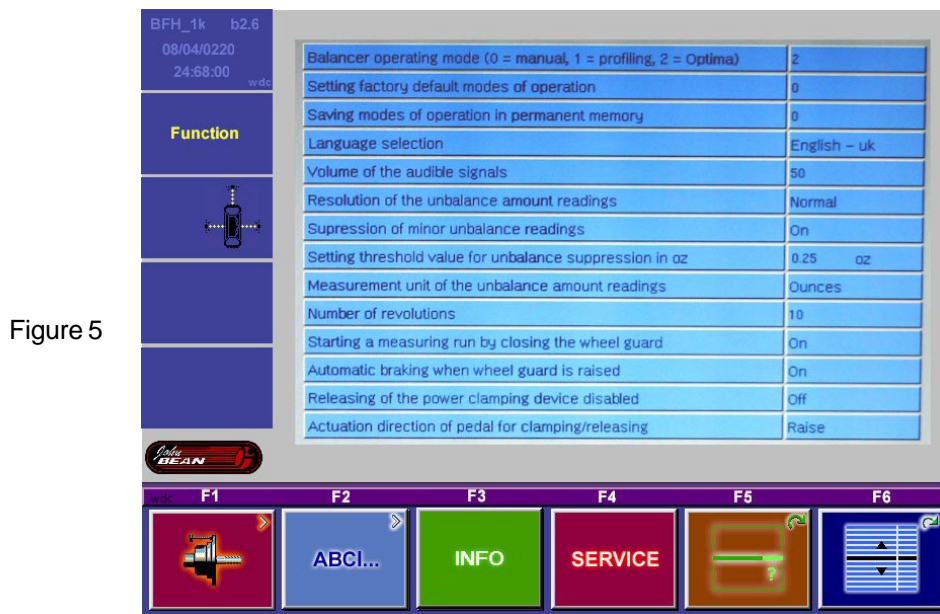

Figure 5
A. Select the “Function” key (F1) from the “Welcome” menu. See Figure 5